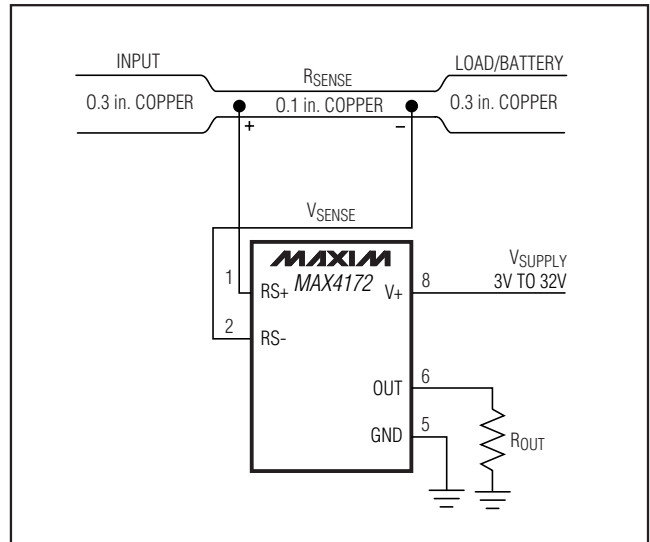

Figure 2. MAX4172 Connections Showing Use of PC Board
- Cost:** If the cost of RSENSE is an issue, you might want to use an alternative solution, as shown in Figure 2. This solution uses the PC board traces to create a sense resistor. Because of the inaccuracies of the copper resistor, the full-scale current value must be adjusted with a potentiometer. Also, copper's resistance temperature coefficient is fairly high (approximately 0.4%/°C).
In Figure 2, assume that the load current to be measured is 10A, and that you have determined a 0.3-inch-wide, 2-ounce copper to be appropriate. The resistivity of 0.1-inch-wide, 2-ounce (70μm thickness) copper is 30mΩ/ft. For 10A, you might want RSENSE = 5mΩ for a 50mV drop at full scale. This resistor requires about 2 inches of 0.1-inch-wide copper trace.